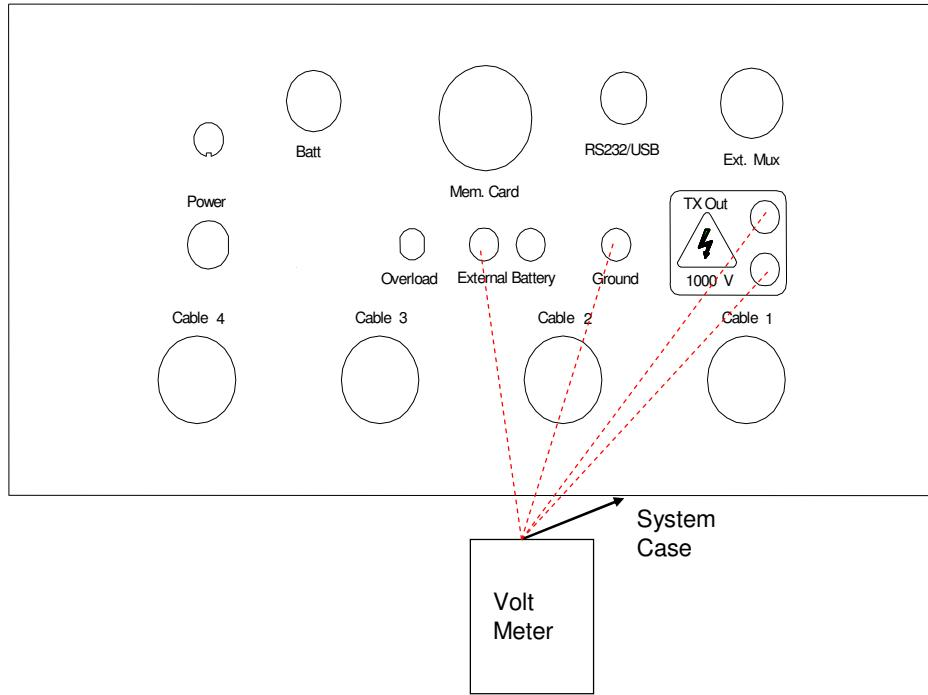

Figure A.3. Isolation test with volt meter between the System Case and the a) negative External Battery connection, b) Ground, and c) Tx Out connections.
6. Turn the system on and test the voltage between the system case and a) the negative (black) external battery connection, b) the ground (green) connection and c) each of the two TX Out connections (see Figure A.3). Voltages should be less than one volt.
7. Set the volt-ohm meter to its highest resistance range and check the resistance values between the system case and a) the negative (black) external battery connection, b) the ground (green) connection and c) each of the two TX Out connections (see Figure A.3). The resistance of the ground should be greater than 600 kOhms.